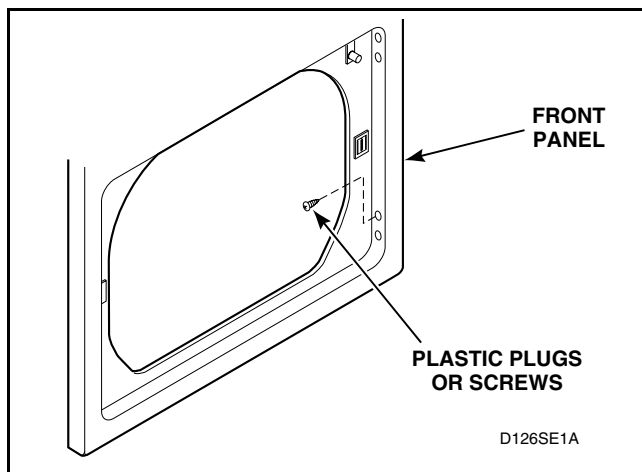

Figure 31
- h. Remove plastic plugs (or screws) from left side of the door opening of the dryer front panel and place them into holes on right side. Refer to *Figure 31*.